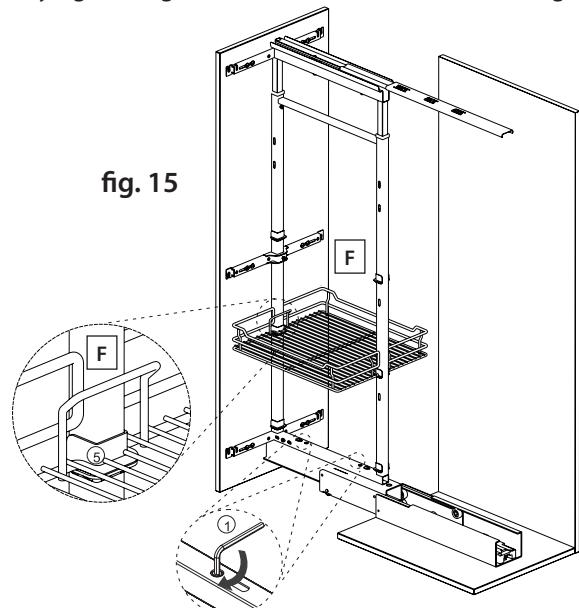

fig. 15
17) The final adjustment is top to bottom and tilt. Loosen the two M6 (#2) screws. Using the 4mm allen wrench (#1), tighten the front screw and loosen the back screw to tilt the top of the door out. If you loosen the front screw and tighten the back screw, the top of the door will tilt in. If you need to adjust the whole door down, tighten both screws the same amount. Finish by tightening the two M6 (#2) screws. Refer to figure 15.